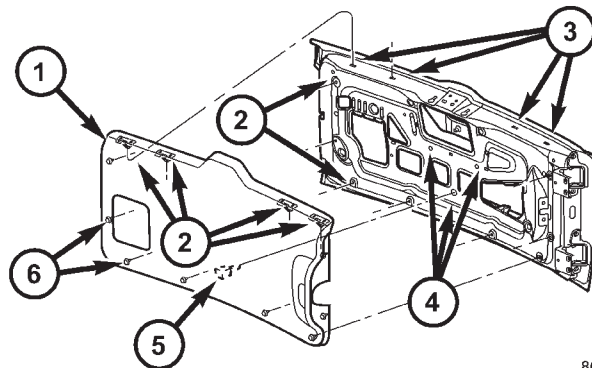

Fig. 7 SWING GATE TRIM PANEL
- (1) Using a trim stick C-4755 or equivalent, release the push pin fasteners. (Fig. 7)
- (2) Lift trim panel up off of the upper trim panel clips